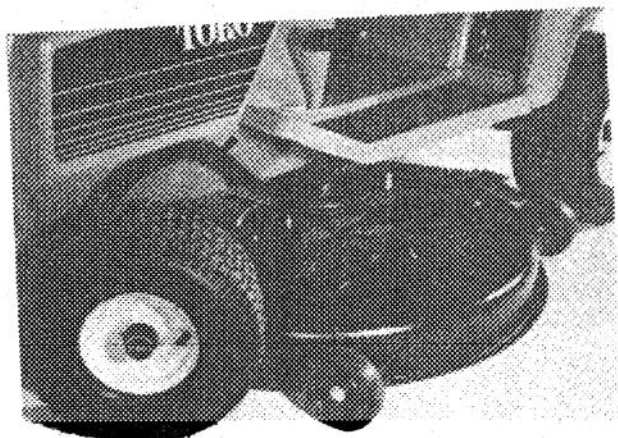

Figure 34
2. Set the cutting unit down on the wheels and rollers and slide the cutting unit (front end first) under the tractor (Fig. 34).